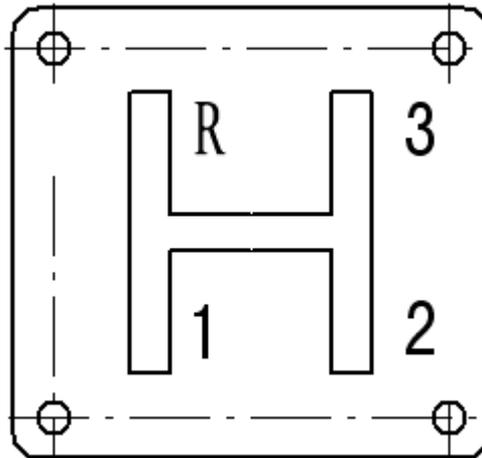

Fig. 4-2 Tractor gears indicator
(1) Gear indicator: located on the bridge shell and indicating the location of gear lever (Fig. 4-2)
(2) Master gear lever: to control master gears shifting (Fig. 4-2)
(3) PTO lever: to release or shift several PTO speeds for output.
(4) Steering wheel: to control the running direction of tractor.
(5) Switch of profile lights: to use tractor profile lights during traveling and operating at night.
(6) Clutch pedal: to get power disengaged through stepping down the pedal
(7) Switch of head lamps: to switch on the head lamps for traveling and operation at night.
(8) Switch of steering indicator: to switch on the indicators for turning.
(9) Gauge for oil and water temperature: to indicate oil and cooling liquid temperature.
(10) Speed and timing meters: to show the working speed of the engine and the accumulated service time of tractor.
(12) Switch of rear working lights: Switch on the rear working lights for implement's operation at night